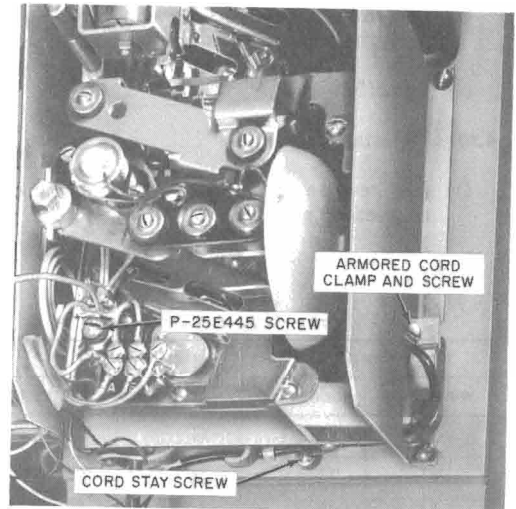

Fig. 17—Location of Cord Stay Screw and Cord Clamp
- (3) Loosen P-25E445 screw in lower left corner of chute assembly (Fig. 17). Exercise care not to lose P-12A681 spring located under screw head.
- (1) Remove gong signal and chute assembly (4.06).
- (2) Disconnect handset leads from TB4.
- (3) Loosen cord stay screw (Fig. 17).
- (4) Remove screw and cord clamp from armored cord.
- (5) Pull cord out front of cover.
- (6) Install, using reverse procedure.